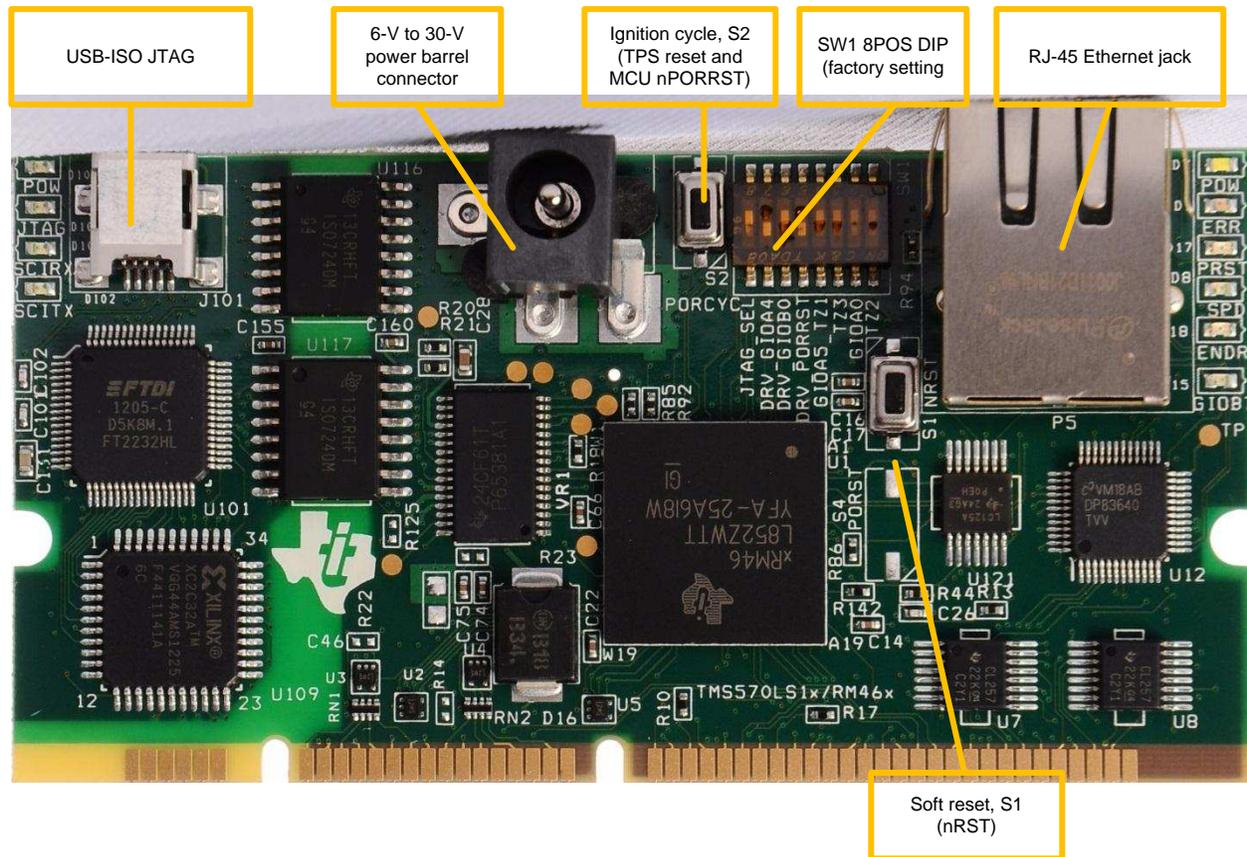

**Figure 7. DRV8301-EVM Connections and Settings**
To view the position of these macro blocks on the DRV8301-EVM board, see Figure 7. All the PWMs and ADC signals that are actuation and sense signals have designated test points on the board. This makes it easy to try out new control algorithms and strategies.
9. Connect a 24-V power supply to J25 (+ terminal) and J26 (– terminal) of the DRV8301-EVM (see Figure 7). (LED1 and LED3 should light up. The control-card LEDs should also light up, indicating the control card is receiving power from the board.)